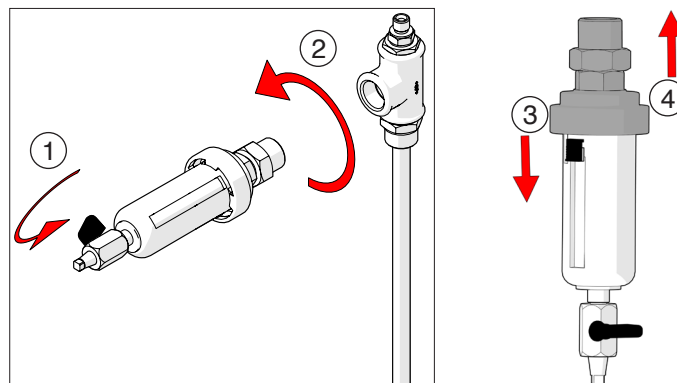

Fig. 74: Disassemble silica gel filter
2. Close the ball valve (item 1 Fig. 74) on the silica gel filter.
3. Unscrew the silica gel filter with double nipple (item 2 Fig. 74) from the barrel/T-piece.
4. Push the safety slide (item 3 Fig. 74) on the cover down and draw the lid with double nipple (item 4 Fig. 74) up and off.